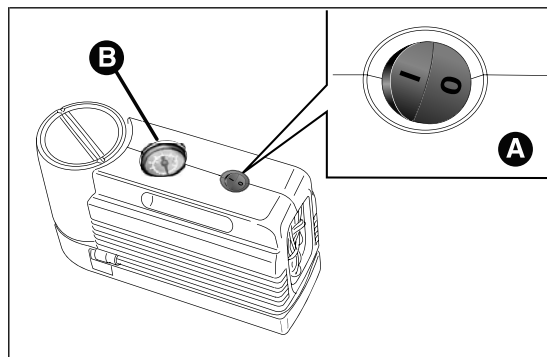
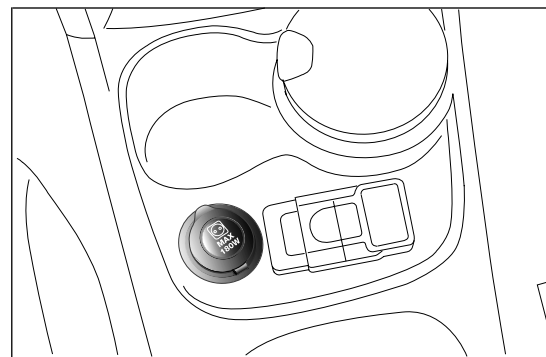

fig. 118
fig. 119
- ☐ make sure that the compressor switch A fig. 118 is in position 0 (off), start the engine, plug into the power socket in the central tunnel fig. 119 and operate the compressor turning switch A to position I (on). Inflate the tyre to the pressure specified in the "Inflation pressure" paragraph in the "Technical specifications" section. Check tyre pressure on gauge B fig. 118 with compressor off to obtain a more precise reading;